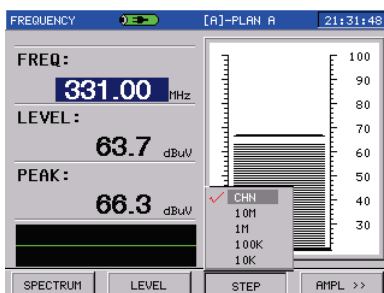

Figure 3-7-2
**STEP(F3):** To set the Frequency step, press the STEP soft key, select one step from 10kHz, 100kHz, 1MHz, 10MHz and channel, and then press the knob to confirm as Figure 3-7-2. After that, you can change the testing frequency with the new step.